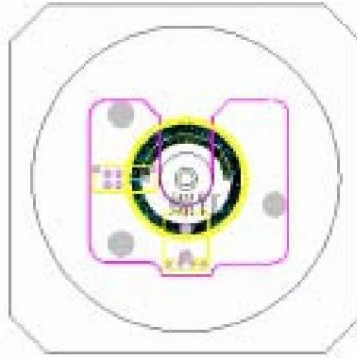

Figure 1
1. Open the rear cover of the spindle motor and loosen the screws securing the encoder disc. See Figure 1 below: